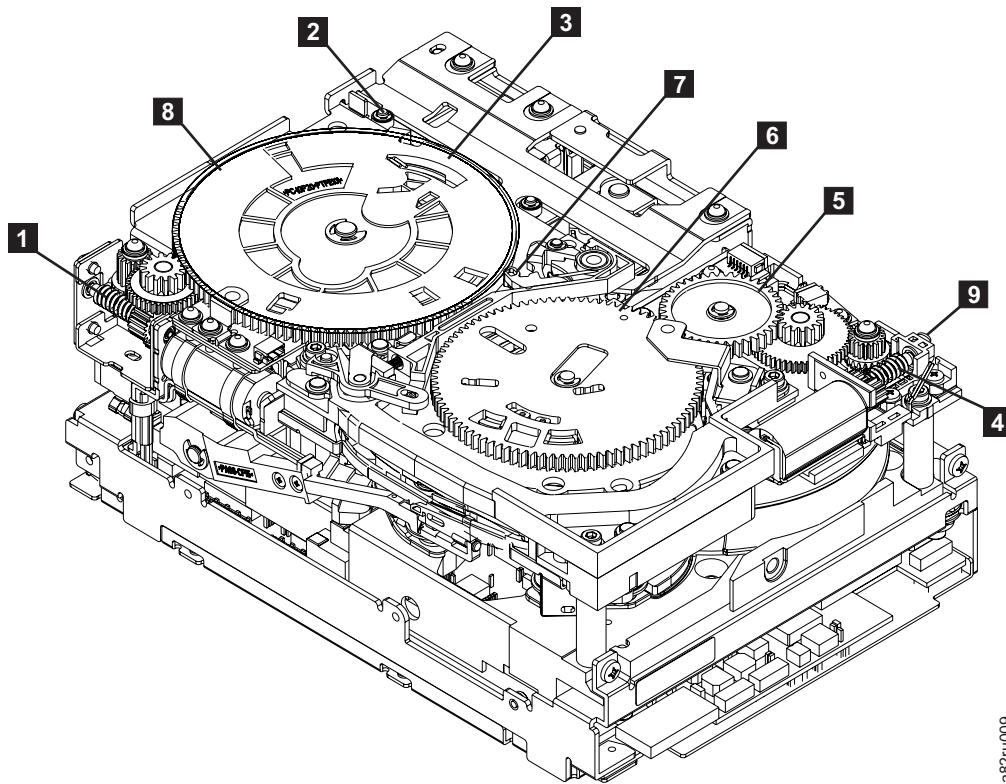
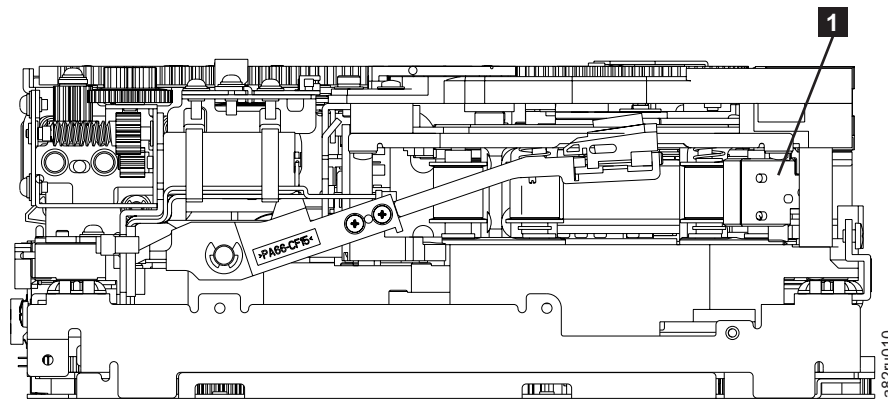

Figure 8-84. Drive with cover removed to reveal gear train
Figure 8-86. Leader Block Assembly (LBA)
3. Locate the threader motor worm gear (**4** in Figure 8-84) the rear of the drive. You can either:
- a. Use your finger to rotate the threader motor worm gear and slowly rotate the threader mechanism gear (**6** in Figure 8-84 on page 8-85) clockwise; or
- b. Use a #1 flathead screwdriver to turn the threader worm gear (**9** in Figure 8-84 on page 8-85) clockwise.
This rotates the threader motor worm gear (**4** in Figure 8-84 on page 8-85) clockwise, drawing the tape leader block assembly (LBA) into the cartridge.
4. As the LBA is secured in the cartridge, you should hear the LBA retention spring clips click into place. If you do not hear the click, continue rolling until the threader motor worm gear (**4** in Figure 8-84 on page 8-85) stops. The LBA is in the correct position.
- a. Loader mechanism gear (**8** in Figure 8-84 on page 8-85) nearest the front of the drive that actuates the cartridge loader mechanism
- b. Position of the rotator stub (**3** in Figure 8-84 on page 8-85).
- c. Front loader motor worm gear (**1** in Figure 8-84 on page 8-85). Rotating this gear allows the loader mechanism gear (**8** in Figure 8-84 on page 8-85) to turn.
6. Rotate the loader motor worm gear (1 in Figure 8-84 on page 8-85) to turn the loader mechanism gear (6 in Figure 8-84 on page 8-85) counterclockwise. Continue turning until the rotator stub (3 in Figure 8-84 on page 8-85) loses contact with the lever (7 in Figure 8-84 on page 8-85). This releases the LBA leader pin.
7. Rotate the threader motor worm gear (4 in Figure 8-84 on page 8-85) to turn the threader mechanism gear (6 in Figure 8-84 on page 8-85) counterclockwise. This moves the LBA out of the cartridge and past the read/write head. Stop this rotation when the LBA is near the tape guide roller nearest the rear of the drive (1 in Figure 8-86).
8. Continue rotating the loader motor worm gear (1 in Figure 8-84 on page 8-85) until the rotate stub (3 in Figure 8-84 on page 8-85) is positioned as shown. Notice that the rotator stub (3 in Figure 8-84 on page 8-85) is nearly aligned with the cartridge loader tray guide bearing (2 in Figure 8-84 on page 8-85).